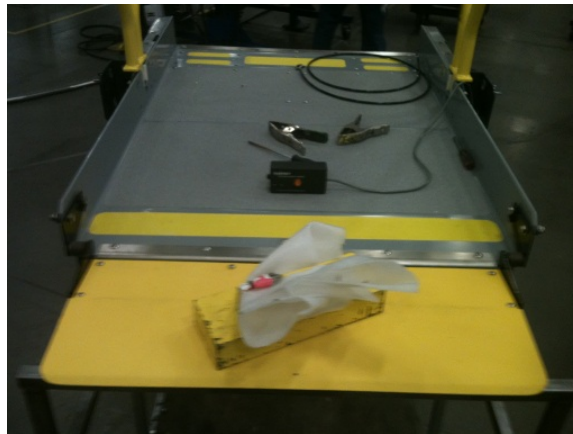

FIGURE 2-8. 25 LB. (11 KG) LOAD TEST (CENTER SIDE)
- 1) Refer to **Figure 2-8**. Perform Load Test by placing 25 lbs. (11 kg) of weight on the center of bridgeplate. Verify that the platform does not move when DOWN button is pressed.